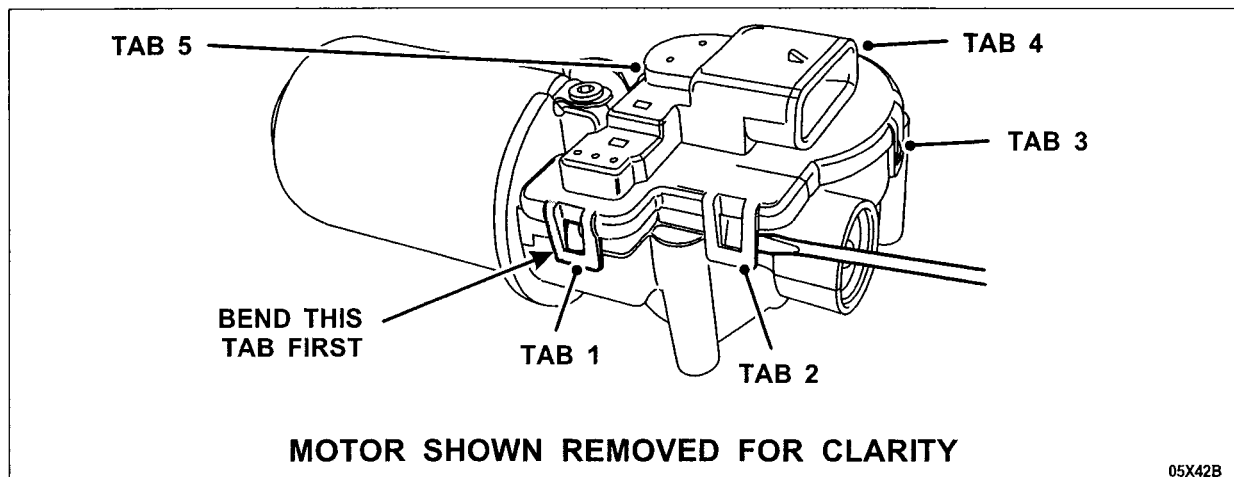

FIGURE 2
Using a small pocket screwdriver placed under the lock tab, rotate the screwdriver to disengage the tab from the lug on the motor housing. Disengage all five (5) tabs in the order indicated in Figure 2.